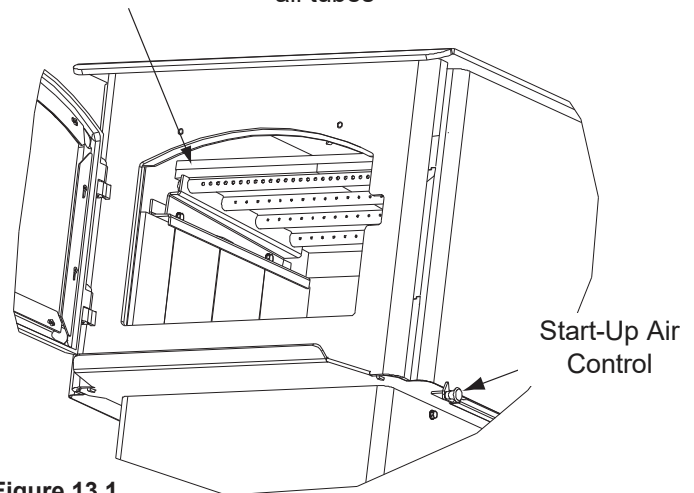

Figure 13.1
1. Confirm the baffle and ceramic blanket are correctly positioned. They should be even with the front tube and resting on all tubes (**Figure 13.1 and 13.2**).